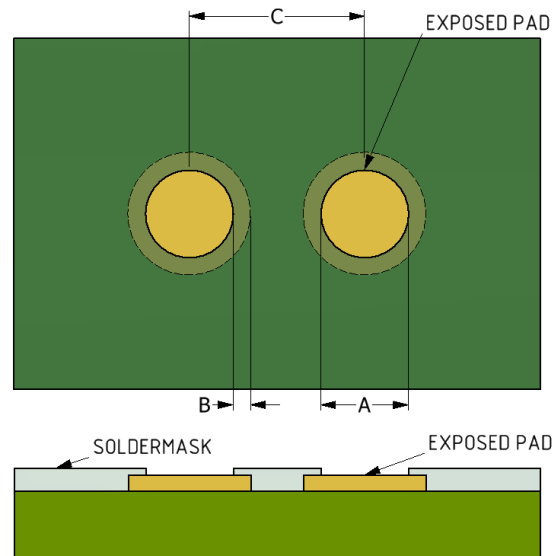

Figure 3. Fine Pitch SMD Pads
2. Refer to Figure 3 for dimensions.